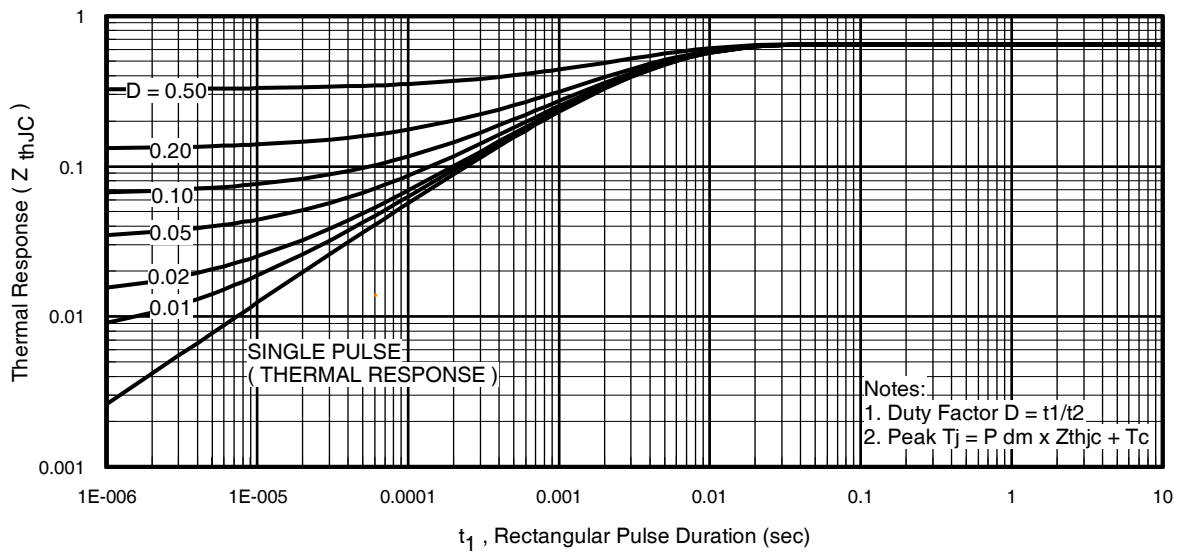
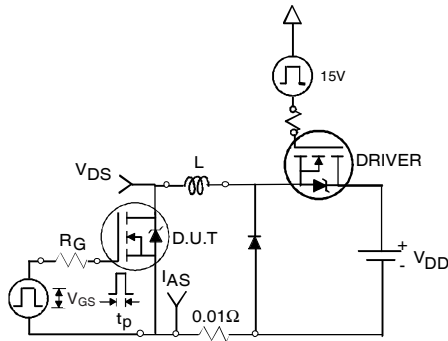

Fig 11. Maximum Effective Transient Thermal Impedance, Junction-to-Case
Fig 12a. Unclamped Inductive Test Circuit
- ① Repetitive rating; pulse width limited by max. junction temperature. (See fig. 11).
- ② Limited by T_{Jmax} , starting $T_J = 25^\circ\text{C}$, $L = 0.10mH$, $R_G = 25\Omega$, $I_{AS} = 75A$, $V_{GS} = 10V$. Part not recommended for use above this value.
- ③ Pulse width $\leq 1.0ms$; duty cycle $\leq 2\%$.
- ④ $C_{oss\ eff.}$ is a fixed capacitance that gives the same charging time as C_{oss} while V_{DS} is rising from 0 to 80% V_{DSS} .
- ⑤ Limited by T_{Jmax} , see Fig.12a, 12b, 15, 16 for typical repetitive avalanche performance.
- ⑥ This value determined from sample failure population. 100% tested to this value in production.
- ⑦ This is applied to D²Pak, when mounted on 1" square PCB (FR-4 or G-10 Material). For recommended footprint and soldering techniques refer to application note #AN-994.
3. Equation below based on circuit and waveforms shown in Figures 12a, 12b.
$Z_{thJC}(D, t_{av})$ = Transient thermal resistance, see figure 11)